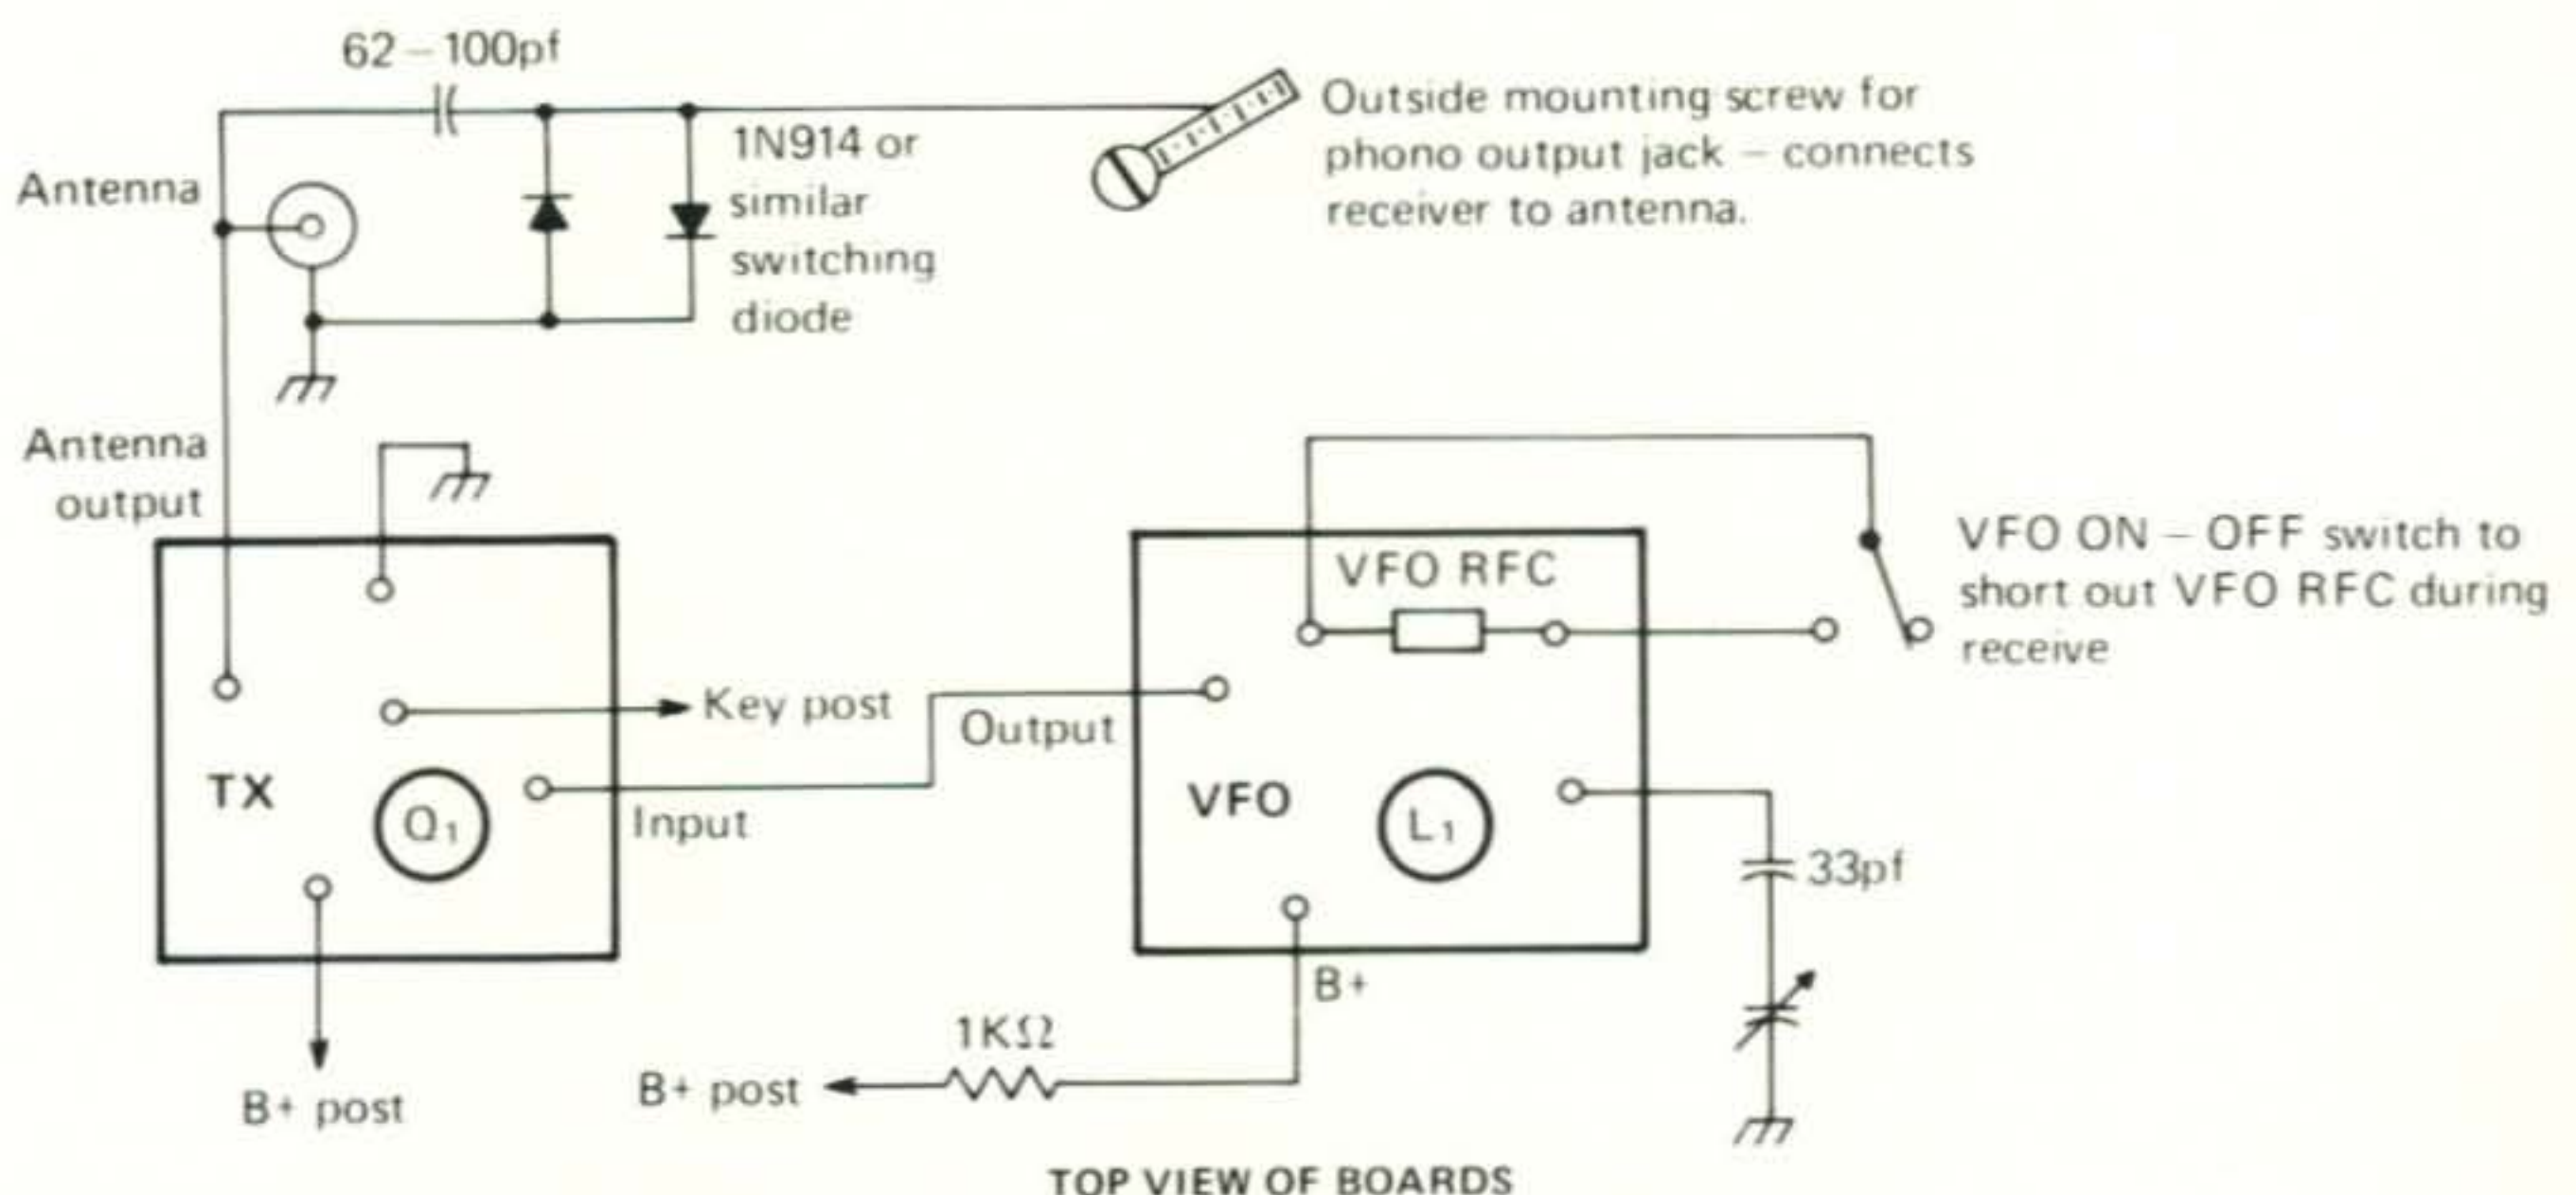

Fig. 2—Electrical connections for the Giant Flea QRPp transmitter. This is shown via a top view of the two boards.
14. Mount the phono jack transmitter output lead. The outer mounting screw is provided with a soldering lug and insulated from the chassis box. Solder the diode T-R switch as shown in fig. 2. This outside mounting screw provides the receiver connection to the antenna. The diode T-R switch permits full break-in operation.